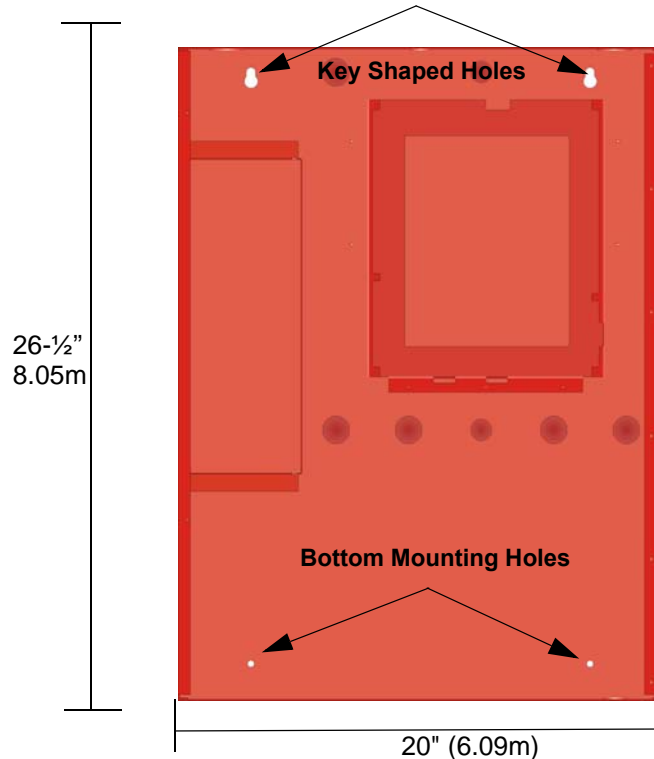

Figure 3.1 Cabinet Mounting Holes
The Cabinet can be mounted on the wall surface. To secure the cabinet to the wall, use the mounting holes in the back of the cabinet (see Figure 3.1 on page 12).
1. Insert two screws level with each other, spacing 14" (.36cm) apart for the top cabinet key-shaped holes. See Figure 3.1 on page 12.